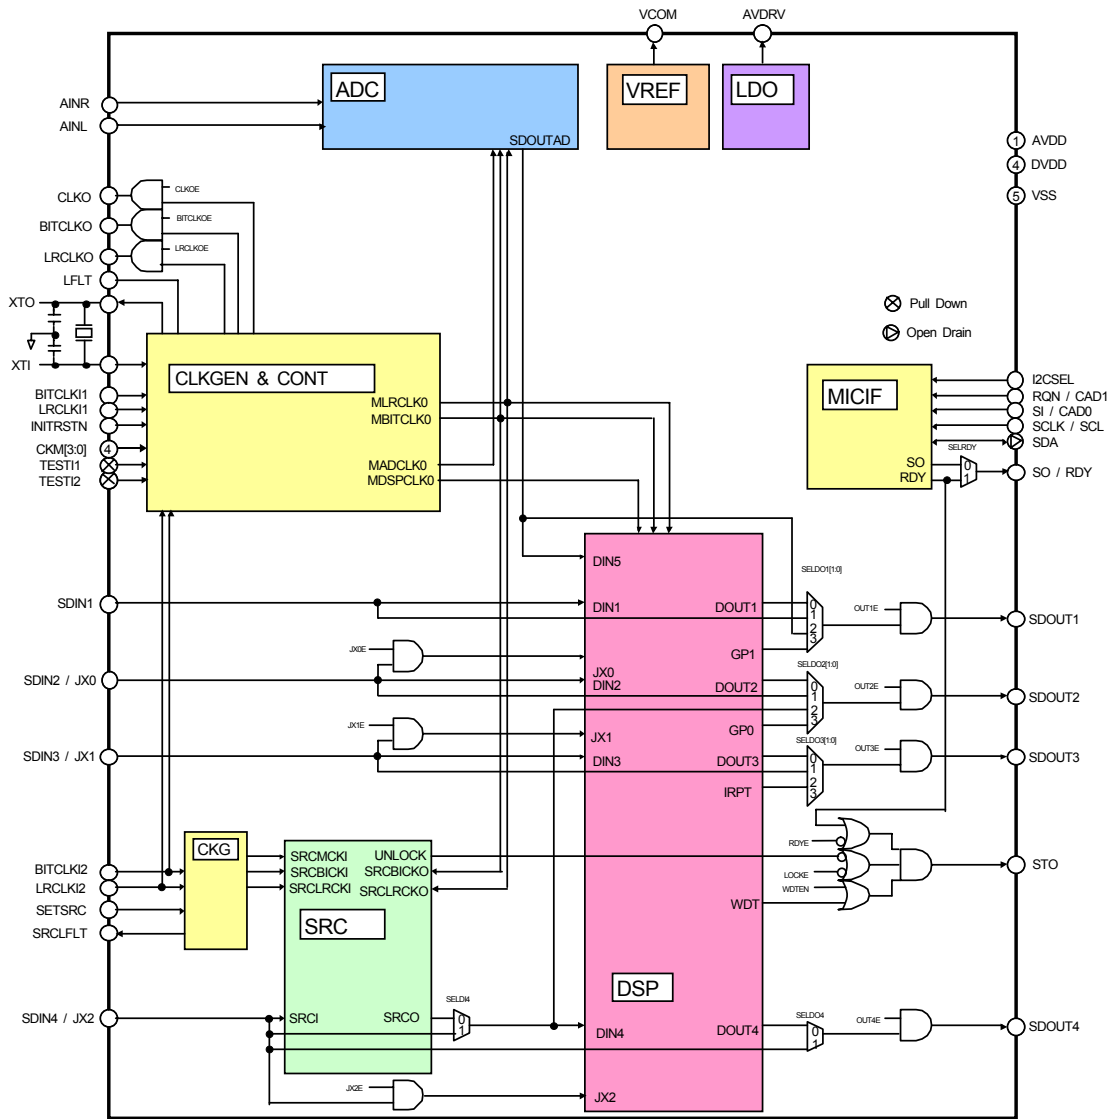

Figure 1. Block Diagram
* Figure 1 shows a simplified diagram of the AK7734, which is not the perfect same as the actual circuit diagram.